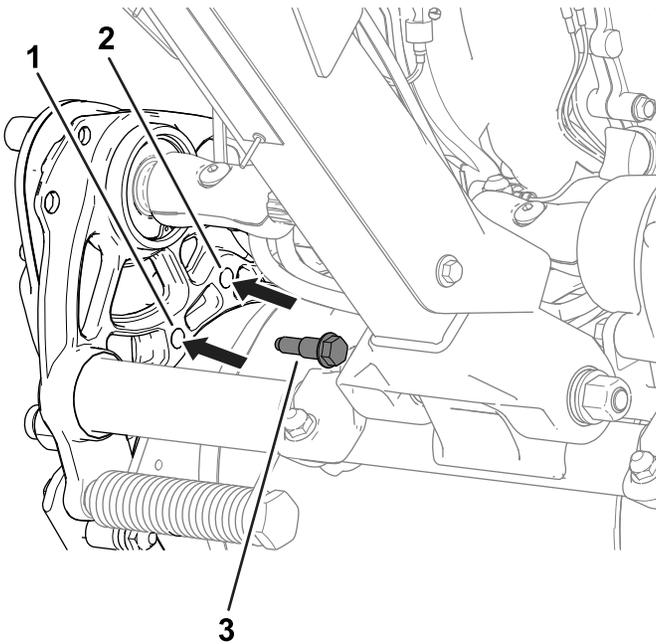

Figure 19
2. Remove the shoulder bolts (Figure 19) on each side of the machine that secure the drum drive housing to the chassis.
4. Use the previously removed shoulder bolts to secure the drive housing to the chassis (Figure 19).